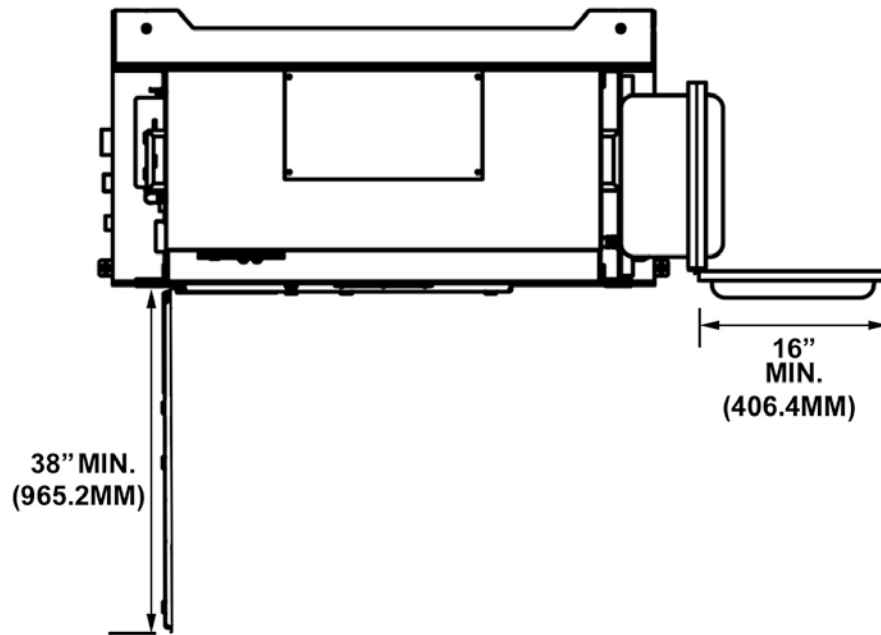

Figure 3-1. Required Opening Clearances for Cabinet Door and Electrical Panel
2. Open and close the control cabinet door (Figure 3-1).